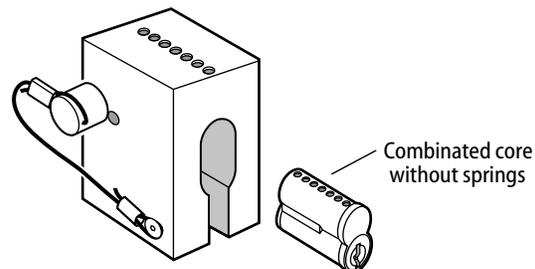

Figure 3 — Inserting a combined core into the capping block
- 1 Place the *combined* core (without springs), large holes on top, into the capping block as shown in Figure 3.